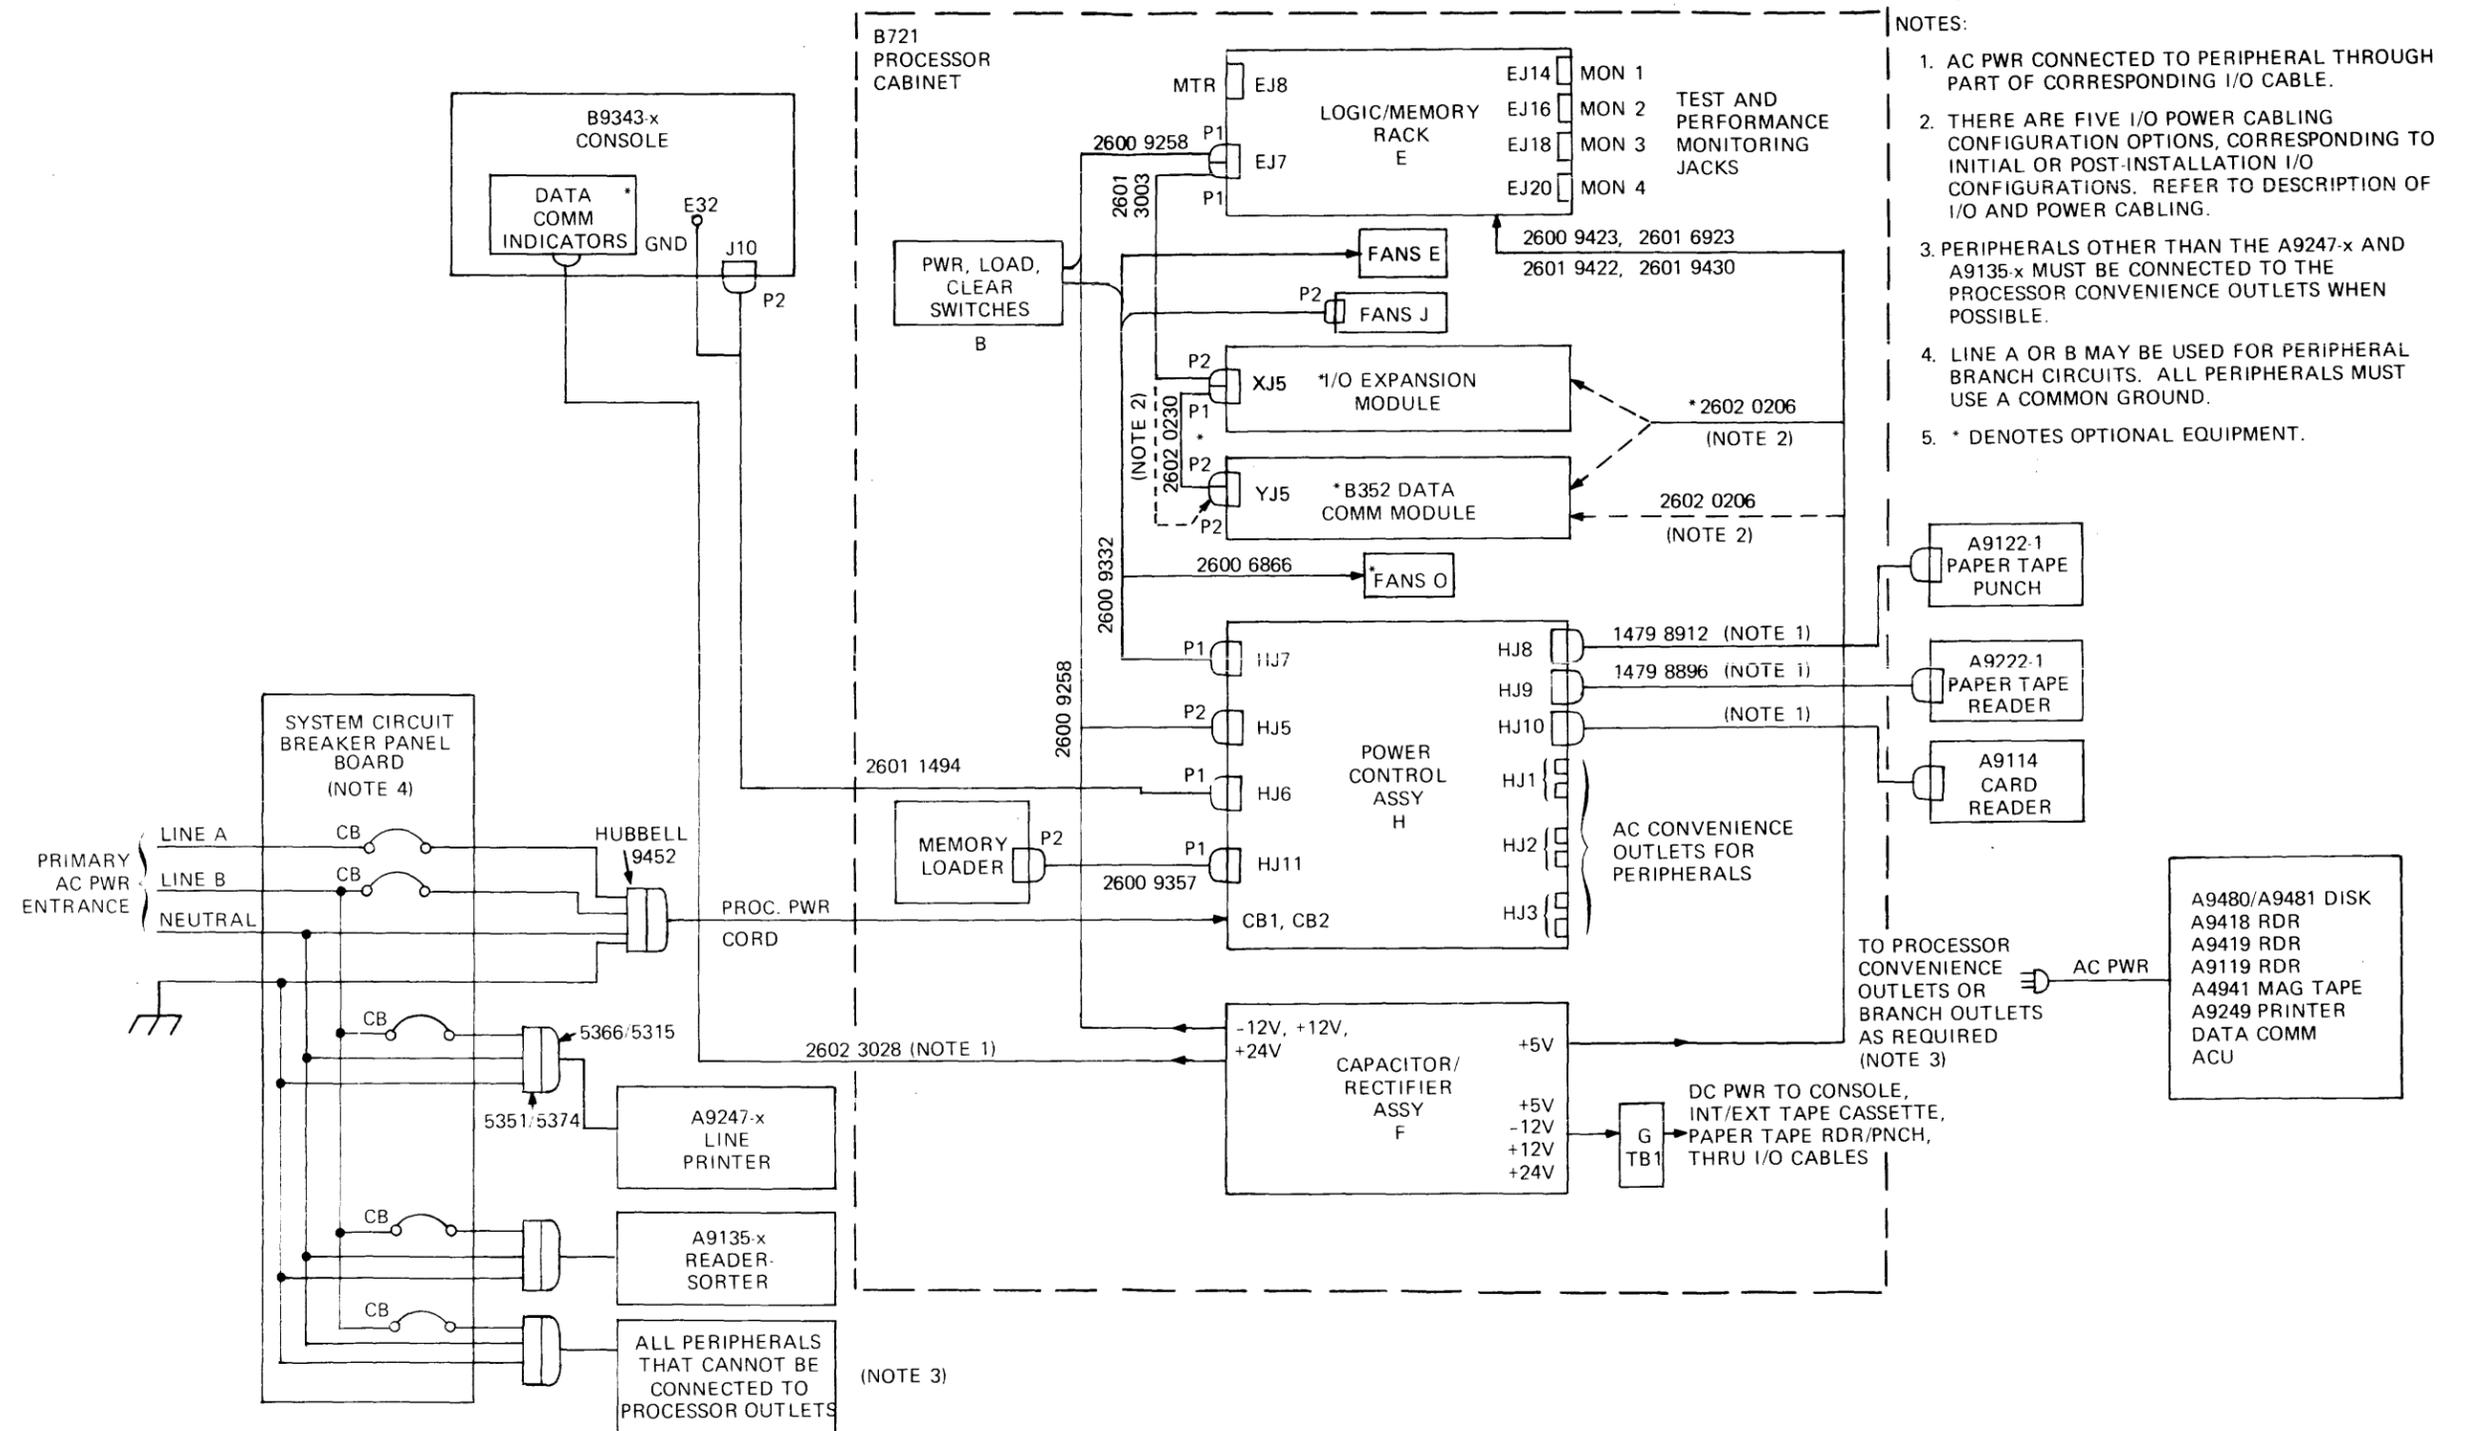

Figure III-13. B 721 SYSTEM POWER CABLING DIAGRAM
Figure III-13 shows the interconnection of the power cabling in a complete B 721 System configuration. As applicable, the part number of each cable is identified. Refer to Table I-3 for a complete list of system power cables and other pertinent information.
1. Make certain that all circuit breakers on branch AC power distribution panelboard (Figure III-13) for system are in OFF position.